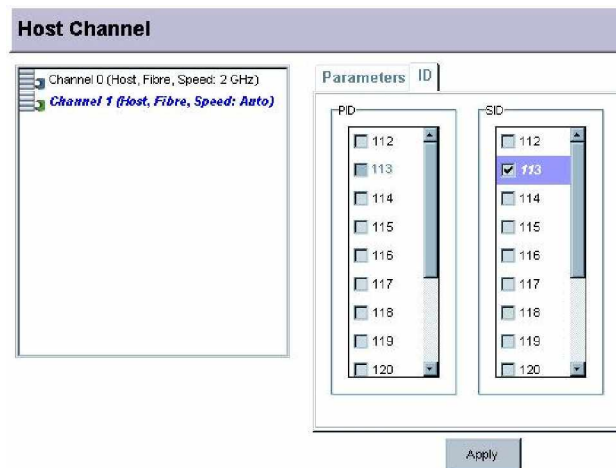

Figure 8-5: ID Pool Menu
- Step 3.** If you want to assign a different ID to the selected channel, choose the “**ID**” panel, an **ID pool** scroll menu should appear as shown in *Figure 8-5*.